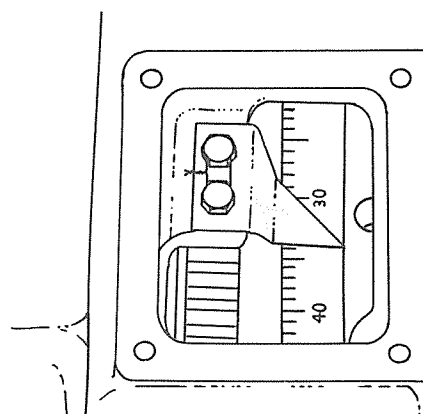

Fig. 7 Timing Mark on Engine Flywheel
c. Continue rotating the flywheel until the timing pointer indicates the specified number of degrees B.T.D.C. on the flywheel timing marks (refer to following table and Fig. 7).